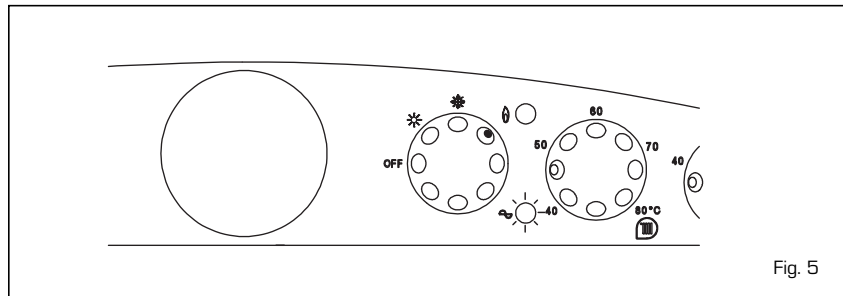

Fig. 5
- **Other faults** (fig. 5)
If the green bicolour detector is flashing (fig. 5) the boiler is not functioning. To restore functioning reinstate the thermostat button.